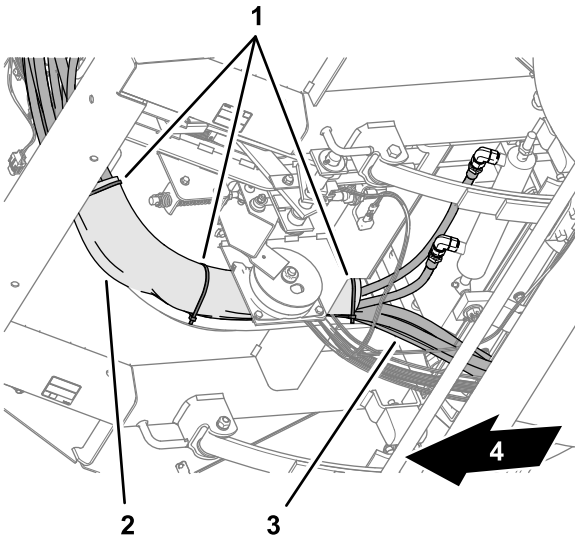

Figure 91
3. Secure the cover to the hoses with 3 cable ties (Figure 91).
2. Assemble the lower hose cover over the steering hoses (Figure 91).